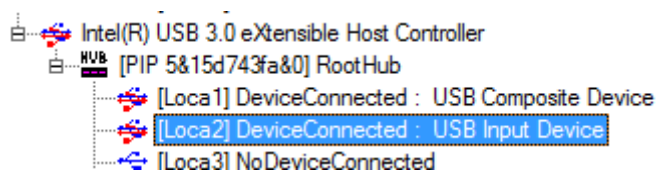

Figure 8 HID Demo – USB View - Left Pane
3. Alternatively software such as Microsoft USBView can be used to view the descriptors of the attached device. This is shown in Figure 8 and Figure 9.